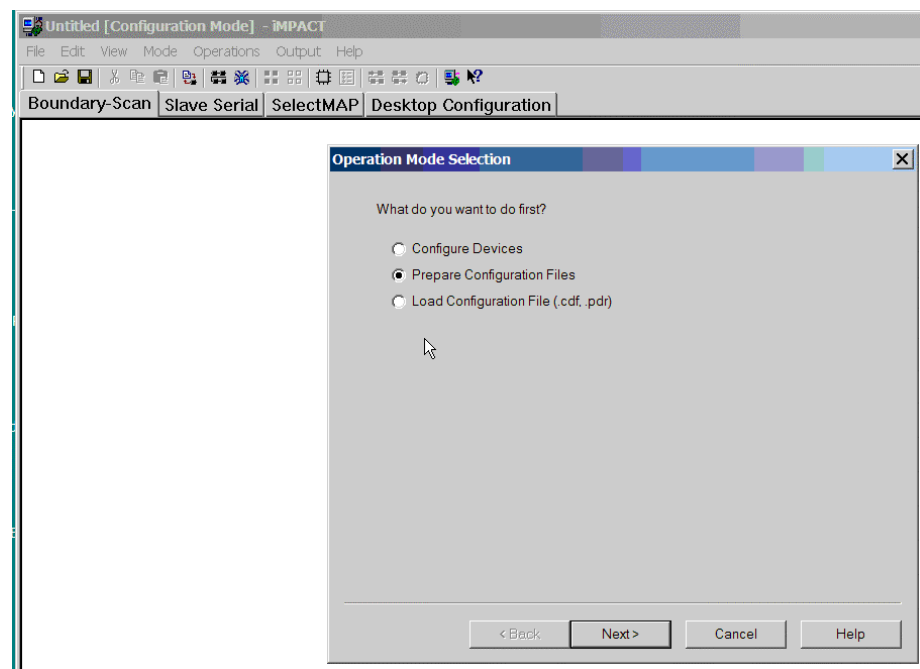

Figure B-1: Operation Mode Selection: Prepare Configuration Files
1. Start iMPACT and select Prepare Configuration Files as shown in Figure B-1.